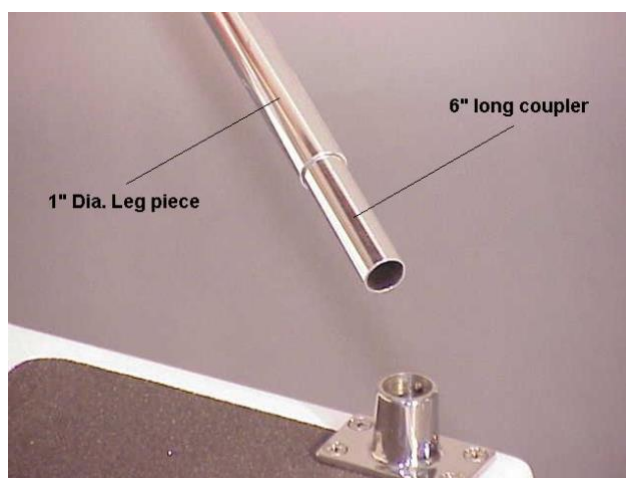

Figure 2
Step 3 - Insert 6" couplers into the end of each leg of the rail. Insert until flush with the leg. This adds strength to the handrail. **See Figure 2**